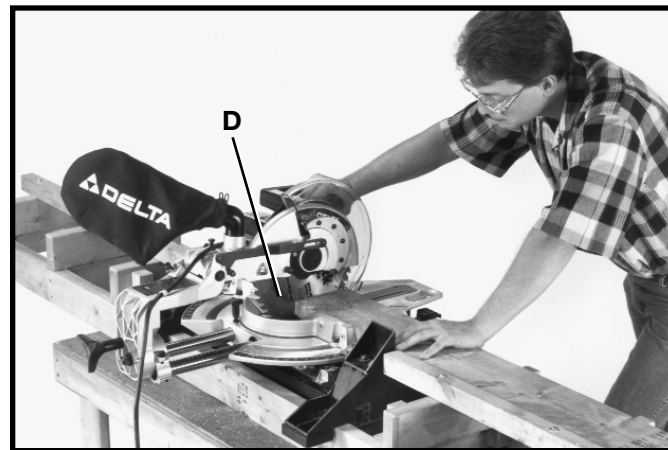

Fig. 77
5. Figure 77 illustrates the completed cut. Release the switch trigger and keep the cuttinghead in the down position until the blade (D) comes to a complete stop.